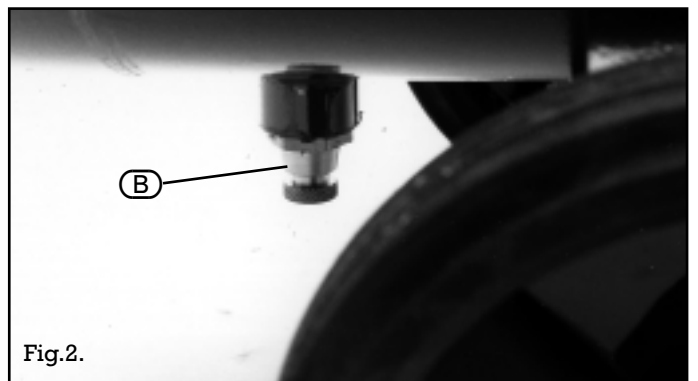

Fig.2.
2. Check that the reservoir drain valve is closed (B) Fig.2.